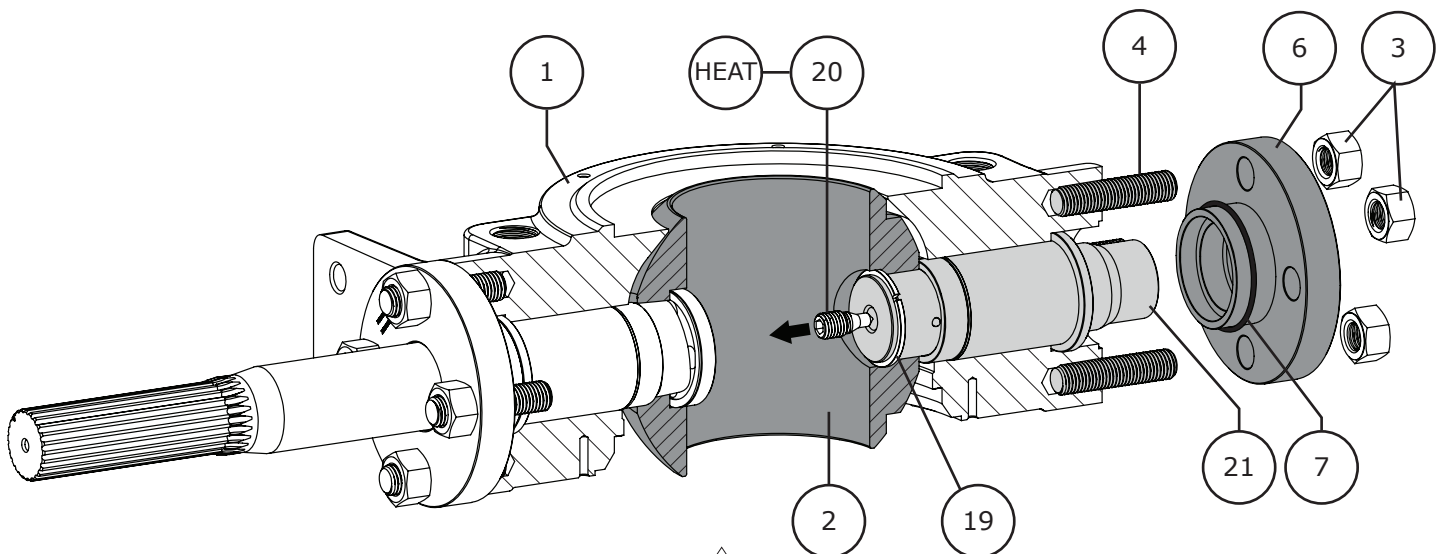

Figure 15 Outboard Shaft Seal Disassembly and (Follower) Shaft Disassembly (Step 1)
- Refer to Figure 15.
- 1 Remove the retainer screw (Key 20) from the follower shaft (Key 21). **NOTE:** it may be necessary to apply heat to the retainer screw in order to loosen the thread locking compound from the threads. Refer to Figure 15.